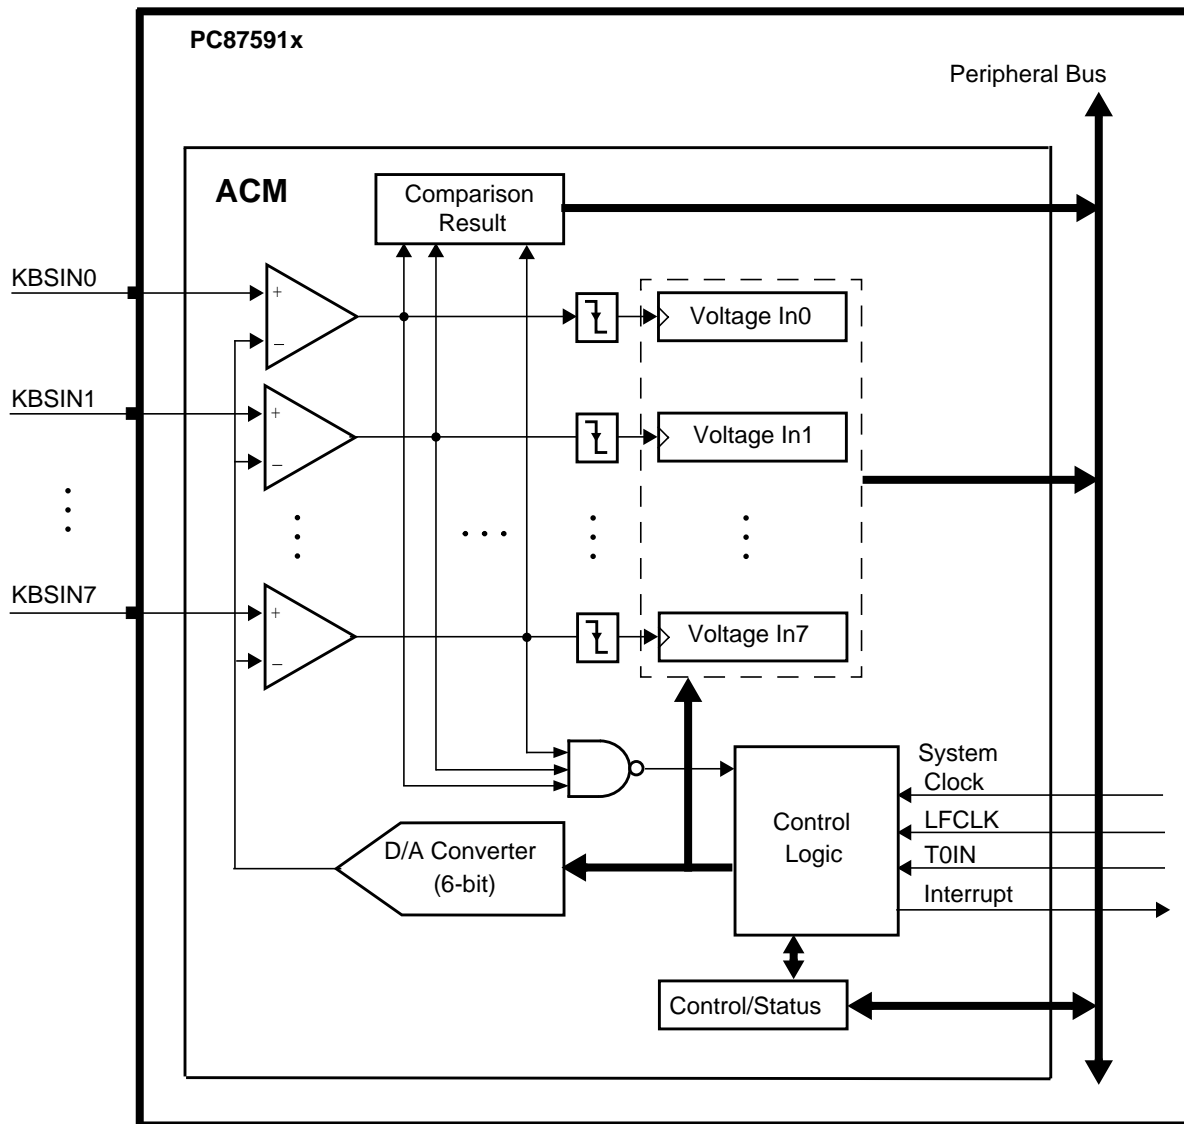

Figure 74. ACM Functional Diagram
Inputs. The ACM has eight analog inputs with a voltage ranging from 0V to V_{CC} (FS), as shown in Figure 74. The voltage level at each input is compared with a reference level, generated by a 6-bit D/A converter.